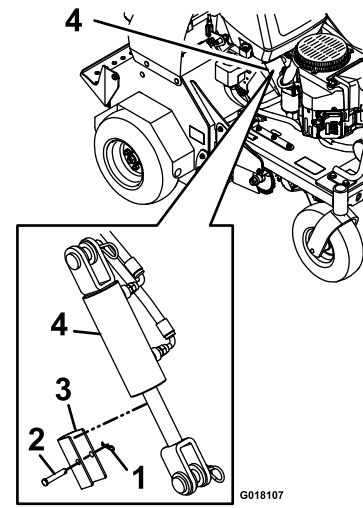

Figure 5
9. Remove and retain the hairpin, clevis pin, and cylinder stop as shown in Figure 5.